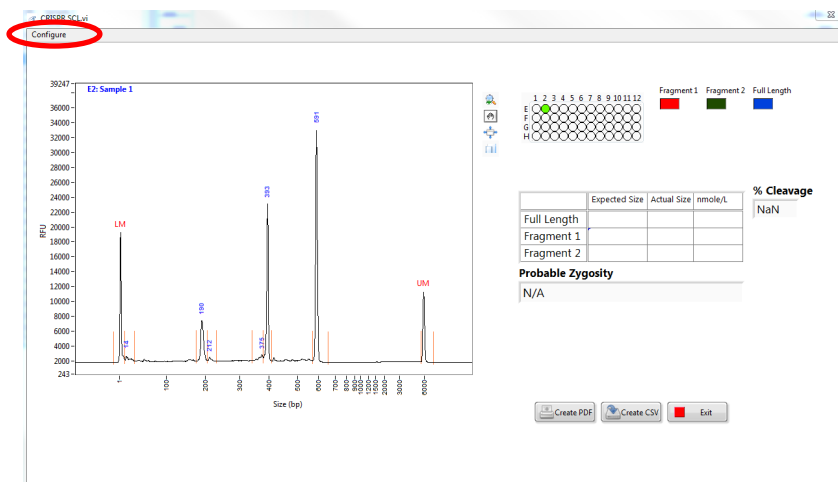

Figure B2. Select **Configure** to enter expected PCR fragment and cleaved DNA fragment sizes.
- 3 To configure fragment sizes for the plugin, or load previously configured and saved values, select **Configure** in the upper left hand corner of the display (Figure B2).